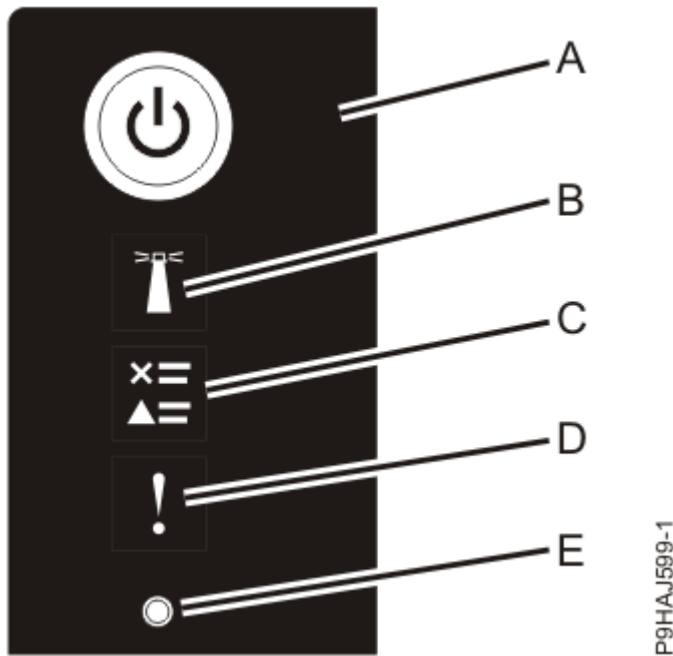

Figure 46: Control panel LEDs
3. Press the power button (**A**) on the control panel, as shown in Figure 46 on page 61.